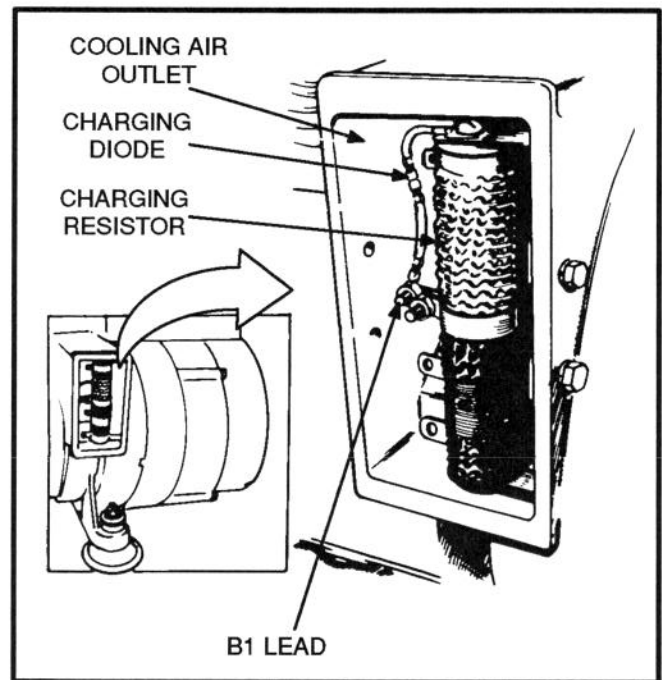

FIGURE 5-13. B1 LEAD LOCATION
6. Remove B1 lead from tapped adjustable resistor in generator air outlet opening (Figure 5-13).